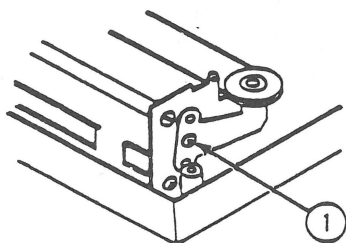

FIGURE 3
9. Loosen the screw on the carrier wire tension arm (see Figure 3, #1) at the right end of the carriage.